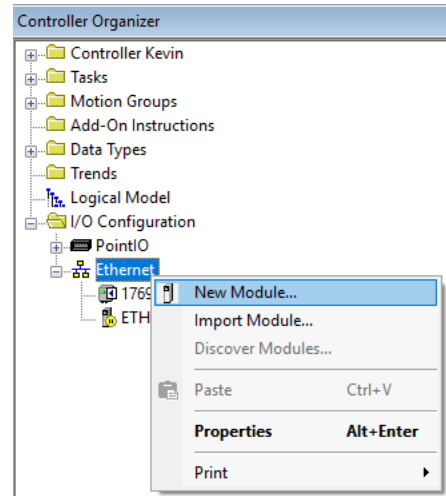
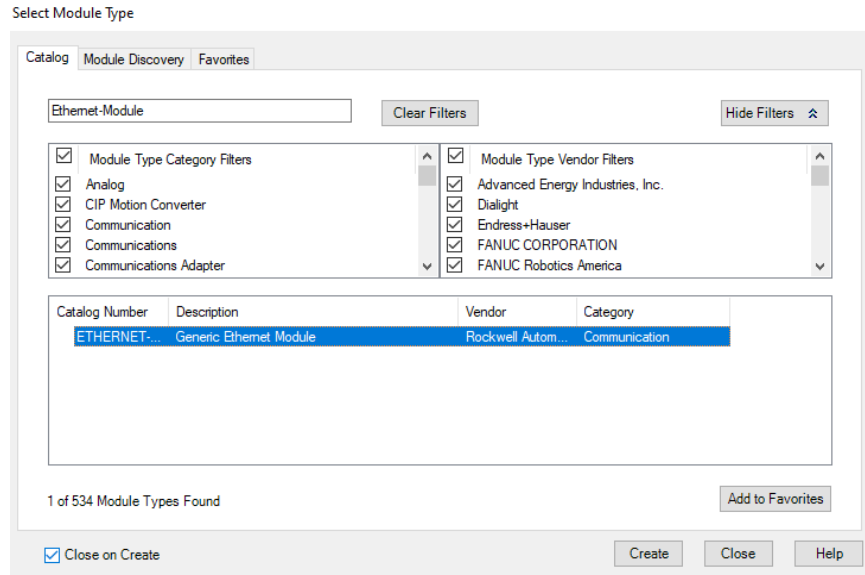

Figure 7 - Create New Ethernet-Module
Figure 8 - Generic Ethernet Module
2. Create a new ETHERNET-MODULE by right clicking on the **Ethernet** menu item displayed on the **Controller Organizer** window (Figure 7) and select **New Module...** which should display the **Select Module Type** window (Figure 8).
3. In the **Select Module Type** window use the filter text box to find a **Generic Ethernet Module** as show in Figure 8. Then click the **Create** button.